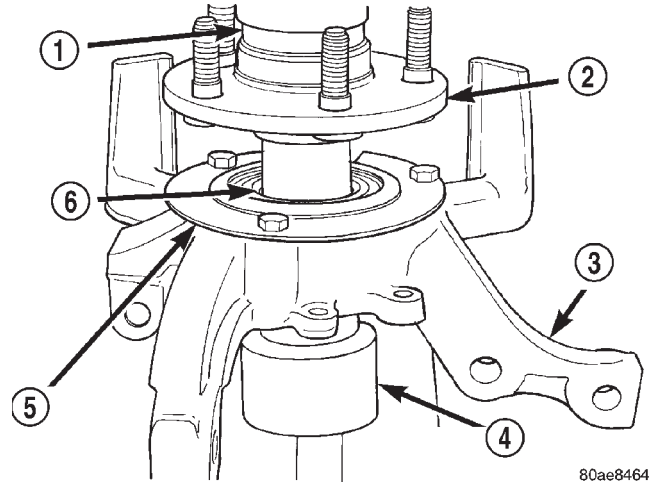

Fig. 42 Pressing Hub Into Wheel Bearing
(5) Place the steering knuckle with the wheel bearing installed back in the arbor press with Receiver, Special Tool MB-990799 supporting the inner race of the wheel bearing as shown (Fig. 42). Place the hub in wheel bearing making sure it is square with the bearing inner race. Press the hub into the wheel bearing until it is fully bottomed in the wheel bearing. Remove the knuckle from the press.